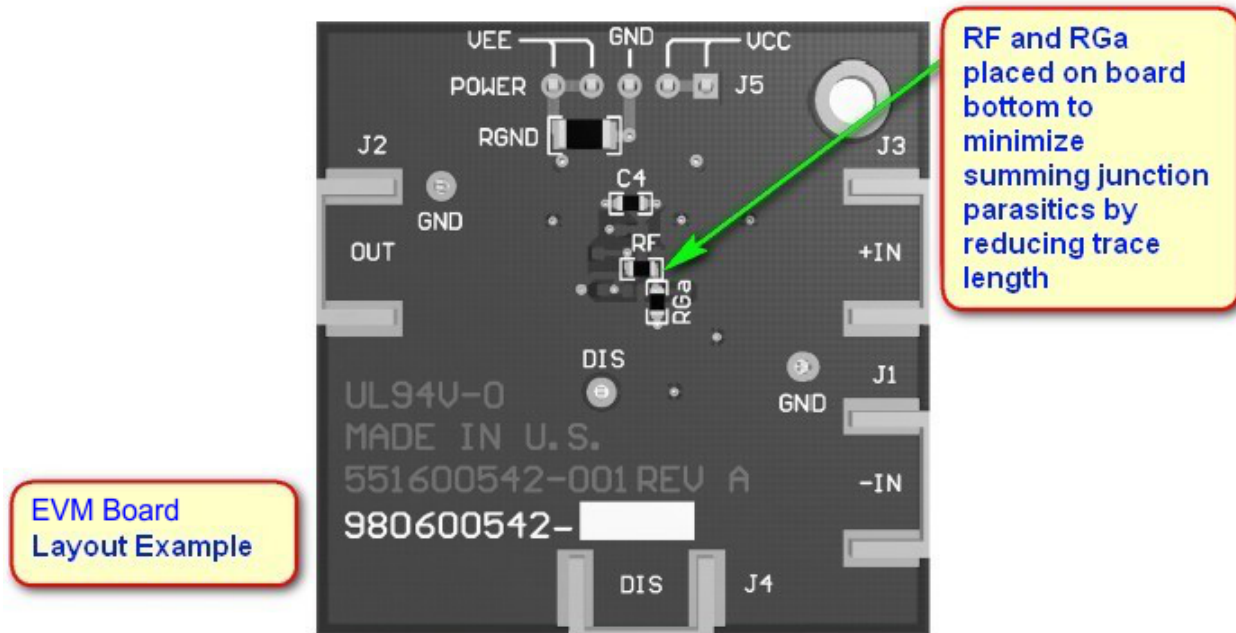

Figure 59. LM8261 Evaluation Board Layer 2
- The input summing junction is very sensitive to parasitic capacitance. Connect any R_f and R_g elements into the summing junction with minimal trace length to the device pin side of the resistor, as shown in Figure 59. The other side of these elements can have more trace length if needed to the source or to ground.